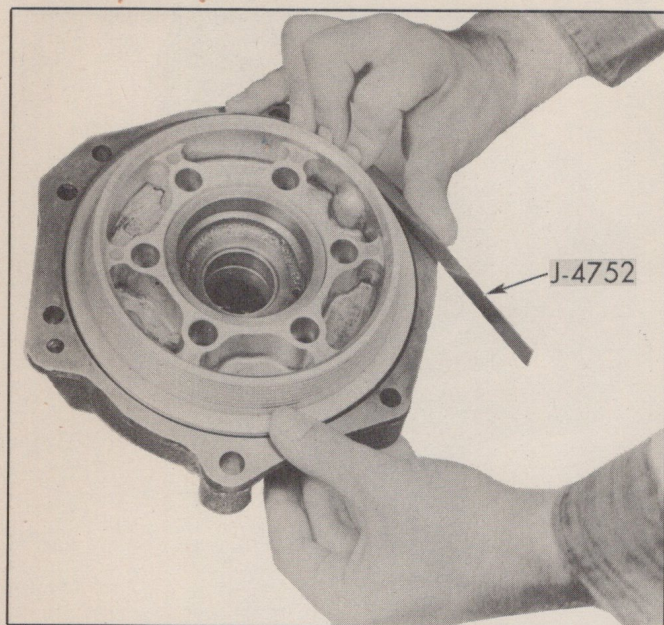

Fig. 265—Installing Reverse Cone Piston
b. Install tool J-4752 between piston and rear bearing retainer as shown in Fig. 265. Work tool down against ledge in rear bearing retainer. This will give a smooth surface inside the rear bearing retainer allowing the seal to pass the ledge without interference.